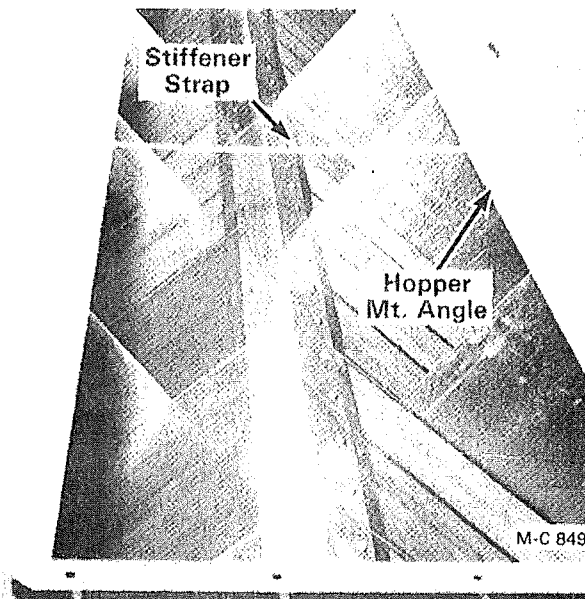

Figure 5
1. Place a stiffener strap #1292947 28" (71cm) long across the center of each set of hopper mount angles bolted to the top of the outer screens. A CF410 & 420 require (1) strap, CF520, 620, 720 & 730 require (2) straps, and a CF820 requires (3). See Figure 5.